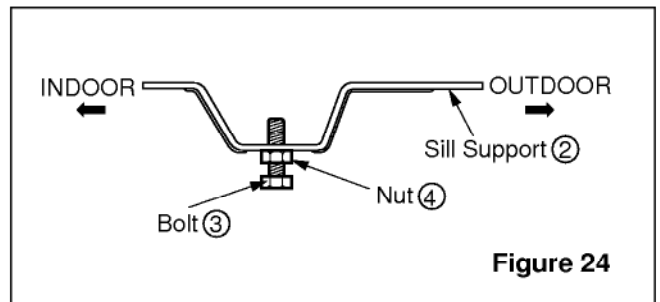

Figure 24
3. Loosely assemble the sill support. (See figure 24).